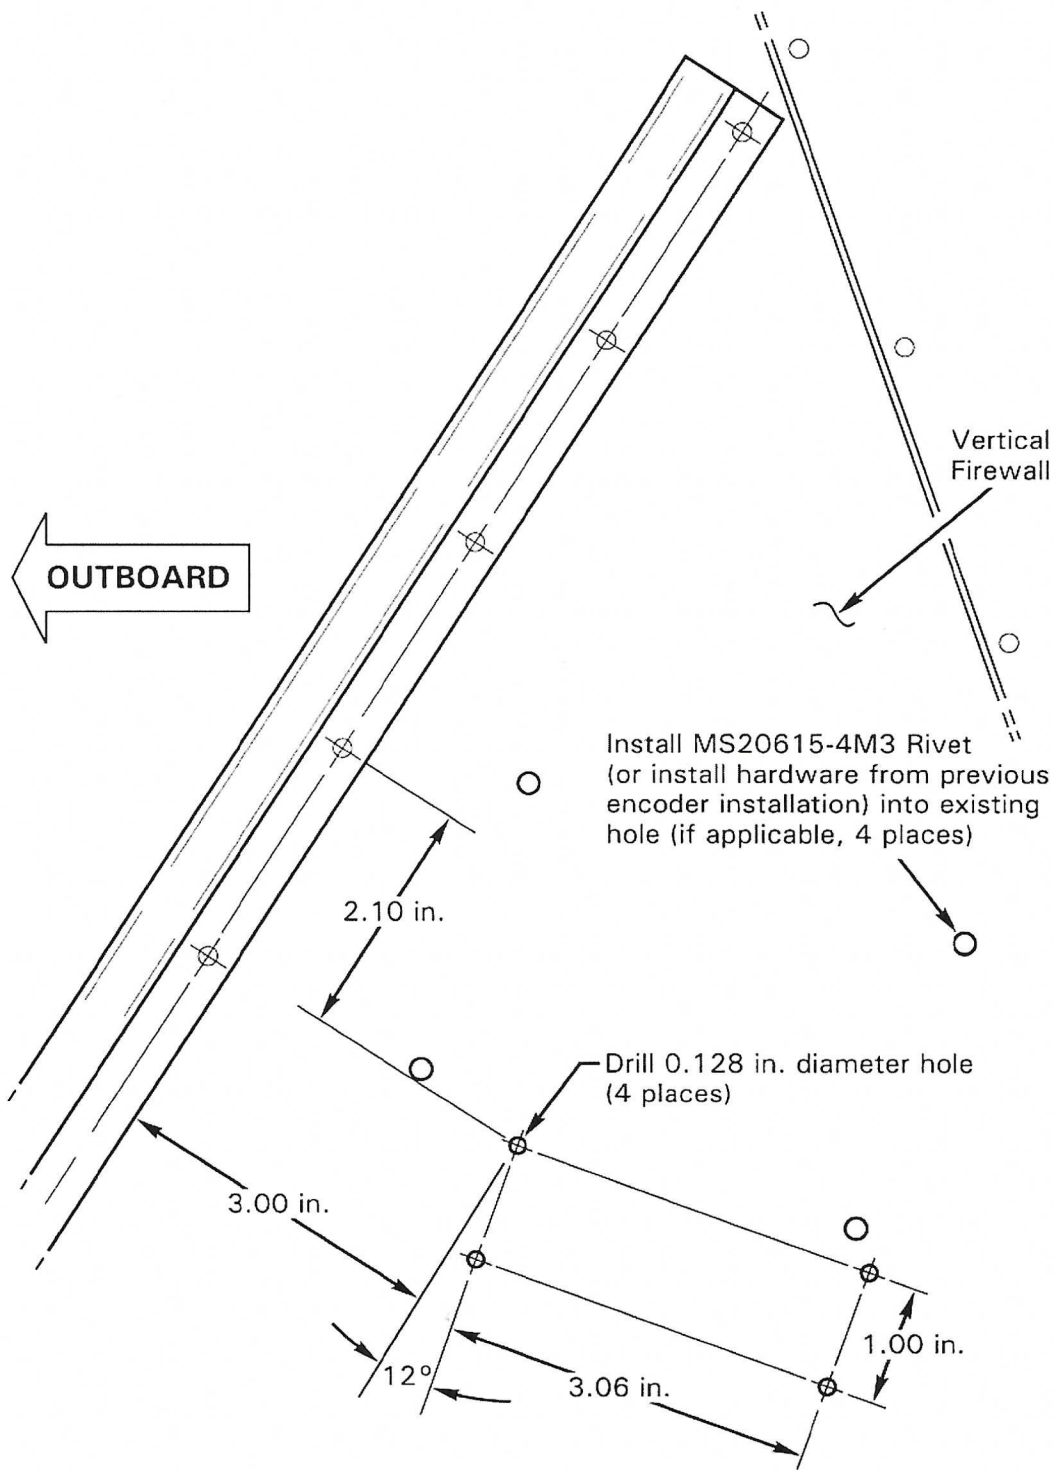

FIGURE 1 R22 VERTICAL FIREWALL DRILLING INSTRUCTIONS
3. Mark forward face of right vertical firewall for drilling four 0.128-inch diameter holes per Figure 1 (some ships may already have holes with screws installed). Use blind encoder mounting holes to verify correct hole positions. Drill and deburr holes. Clean up debris.